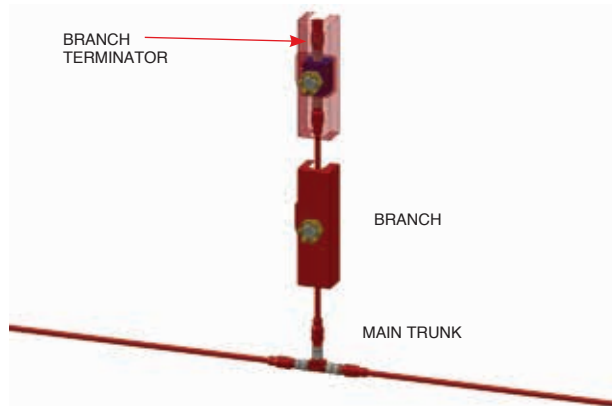

FIGURE 4-4
4. Spot thermal detectors may be run in a branch from main detection trunk. A branch terminator is required when installed on a branch. See Figure 4-4.